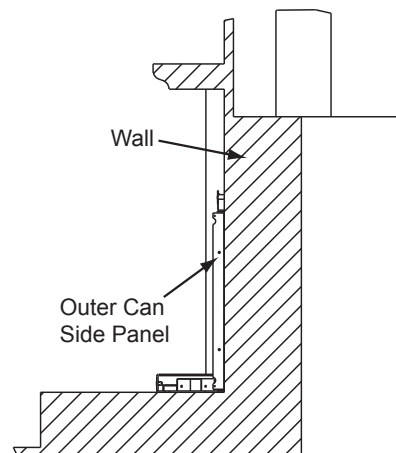

Figure 19.5
1. Align the back of surface of outer can side panels to the front wall surface for proper placement (**Figure 19.5**).